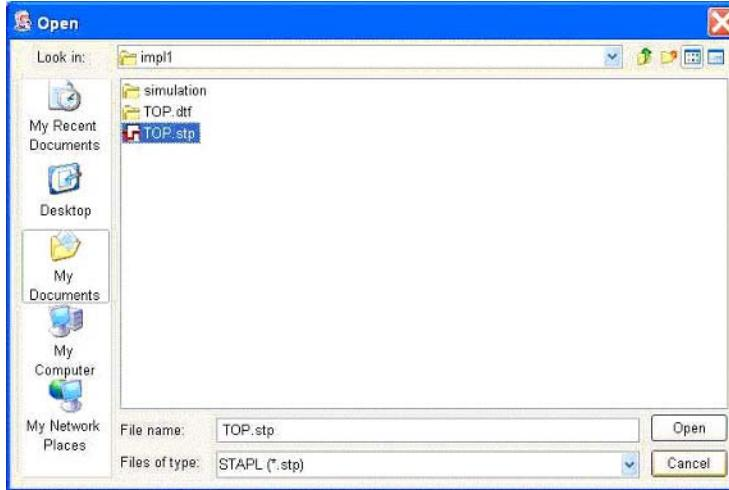

Figure 7-43 • Open STAPL File Dialog Box
1. Click the **Open File** button in the toolbar; or from the **File** menu, click **Open STAPL file**. The Open dialog box will appear, as shown in Figure 7-43.